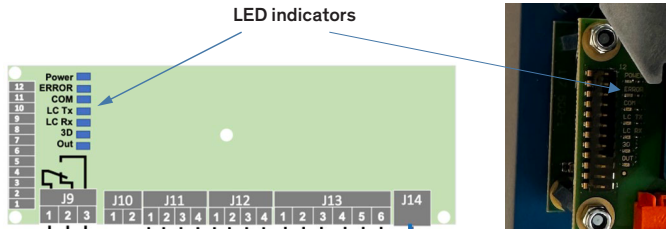

Figure 27: LED indicators sensor interface PCB
- Group one is next to the DIP switches on the sensor connection PCB as shown in Figure 27 below